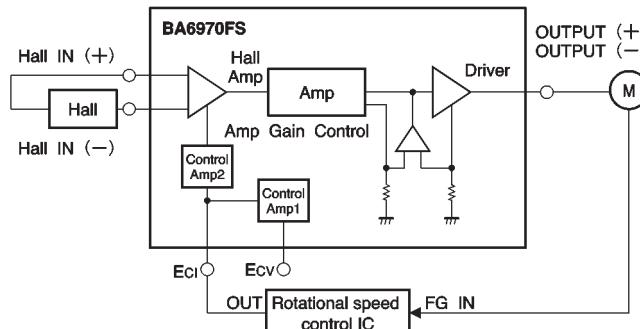

Fig.6
(1) The signal from the Hall device is amplified by the Hall amplifier and then supplied to the driver circuit. The driver gain, which is constant, is regulated by changing the Hall amplifier gain with the  $E_{CI}$  input current or the  $E_{CV}$  input voltage ( $E_{CI}$  and  $E_{CV}$  are output current control pins). The motor rotational speed is sensed by the FG, and the output from which is F / I-converted and supplied to the  $E_{CI}$  pin or F / V-converted and supplied to the  $E_{CV}$  pin as a feedback signal, so that a constant rotational speed is maintained as follows (Fig. 6) :